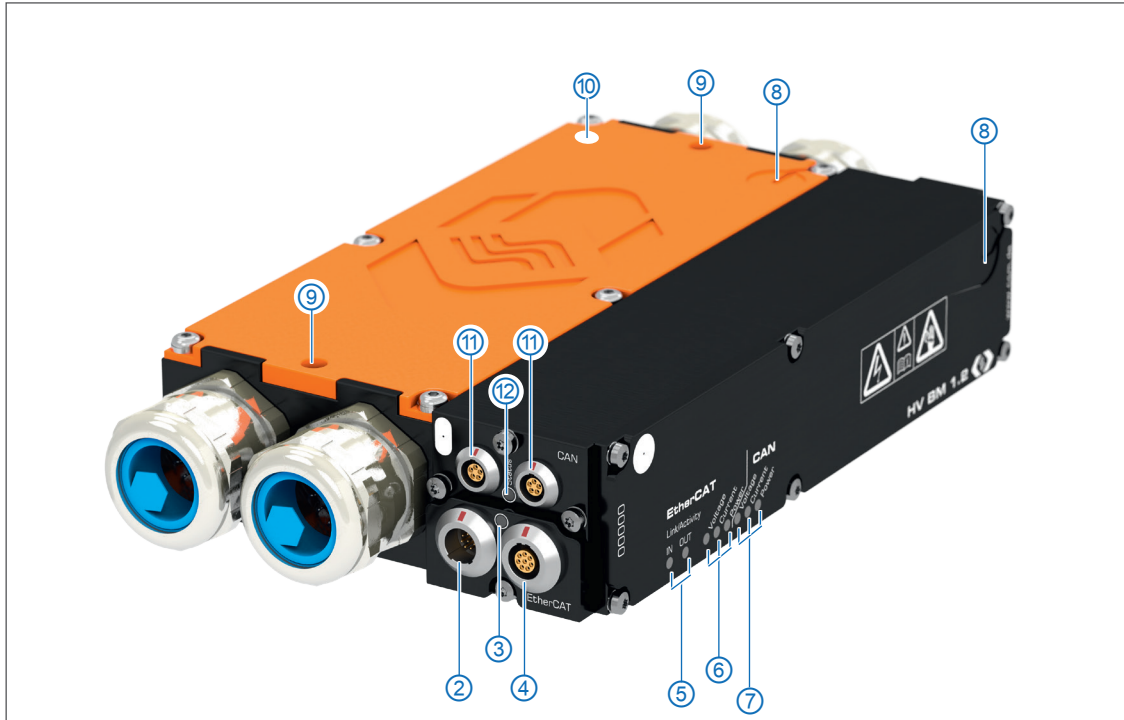

Fig. 3-1: HV BM 1.2, connections and LED indicators
10. Contact surfaces for measuring the resistance of potential equalization or protective earth (PE) to lid
² The connections shown in Fig. 3-1 apply to module version HV BM 1.2. The HV BM 1.1 is only equipped with one cable gland per side ① and does not have bores for threaded bolts ⑨.
The two-color status LED (Fig. 3-1, ③) is lit red for a few seconds after the module is switched on and then turns off.⁴
The LED indicator (Fig. 3-1, ⑫) between the two CAN sockets indicates the operating status of the measurement module.
The LED indicators for the sockets **IN** and **OUT** (Fig. 3-1, ⑤) are lit or are flashing if the measurement module is electrically connected to an XCP-Gateway or if data is being transferred.
The measurement channel LED indicators (Fig. 3-1, ⑥ and ⑦) show the status of the corresponding measurement channel. There are separate LED indicators for access via CAN bus or EtherCAT® bus. The measurement channels are arranged as follows (left to right):
- ▶ four M5 screws⁹ or two M6 threaded bolts (HV BM 1.2 only, Fig. 3-1, )